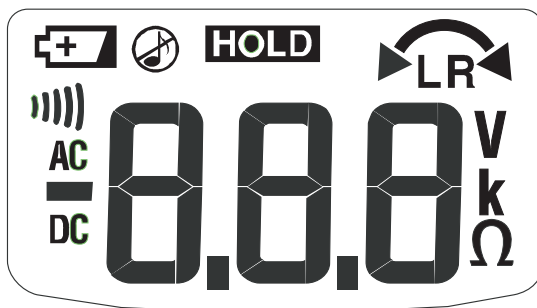

Figure 1. LCD Display
1. Observe the LCD and short the test probes together. All LCD segments shown in Figure 1 should light.